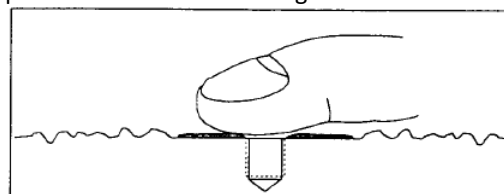

Figure 6. Mounting Surface Lubrication
STEP 2: Wipe clean the mounting surface and spread on a light film of grease, oil, or similar coupling fluid prior to installation. See Figure 6.